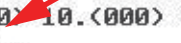

Figure 4-22 Assigning Netmask
14. Type **Y** to set the Netmask. type the desired Netmask value and press **Enter**. See Figure 4-22.